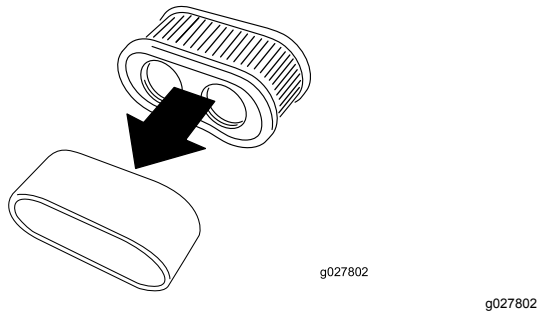

Figure 41
5. Separate the foam and paper elements (Figure 41).